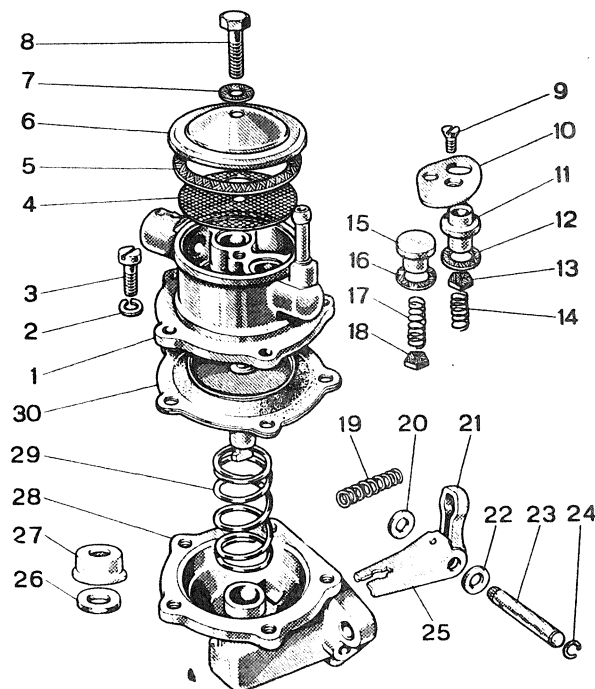

Fig. 140 - Fuel pump components.
- the lower element which houses the pump diaphragm, and its camshaft-operated pushrod control (fig. 140).
The disassembly of inlet and outlet valves (13, 18, fig. 140) is performed after removing retain-
ing plate (10, fig. 140). Wash these valves in gasoline. Replace if they are damaged.
(Alternative to pump shown in fig. 140).